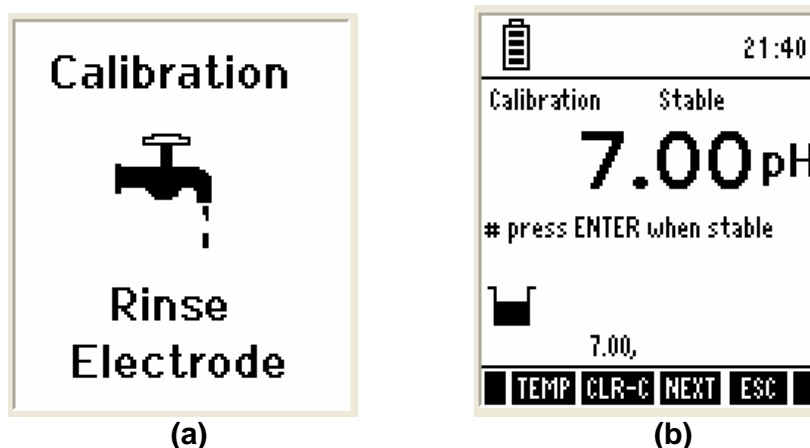
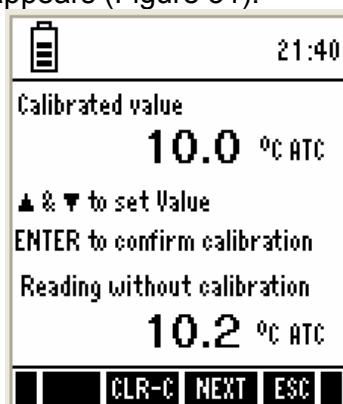

Figure 28 : Calibration Screens
Figure 31: Temperature calibration screen
8. When the correct password is entered, the 'Calibration – Rinse Electrode' screen appears. [Figure 28-(a)]
3. The meter shows 'Calibration-Rinse Electrode' screen [Figure 28-(a)] for few seconds and then shows the pH calibration screen [Figure 28-(b)].
3. The meter shows 'Calibration-Rinse Electrode' screen [Figure 28-(a)] for few seconds and then shows the calibration screen. Press **TEMP (F1)** to go to temperature calibration. The temperature calibration screen appears (Figure 31).
3. The meter shows 'Calibration-Rinse Electrode' screen [Figure 28-(a)] few seconds and then shows the mV calibration screen [Figure 32-(a)].